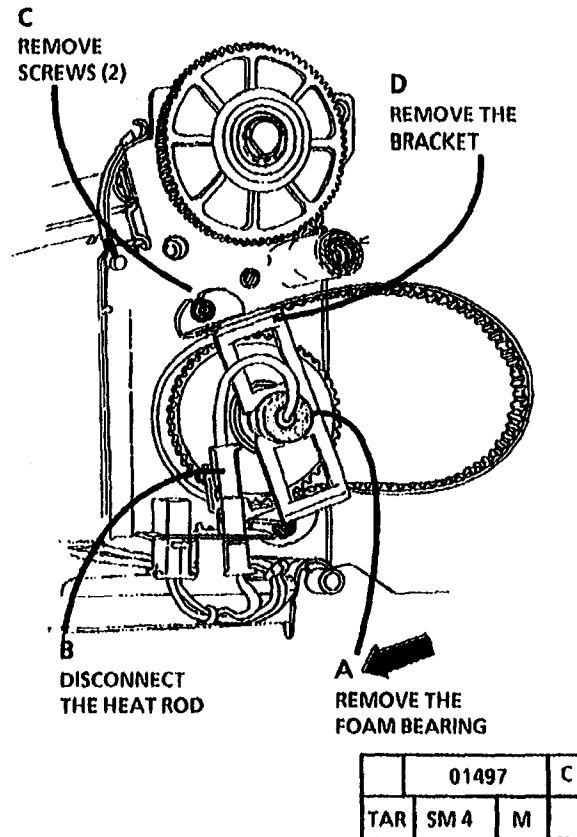

Figure 1. Remove the Bracket
4. (Figure 1): Remove the Lamp Bracket.